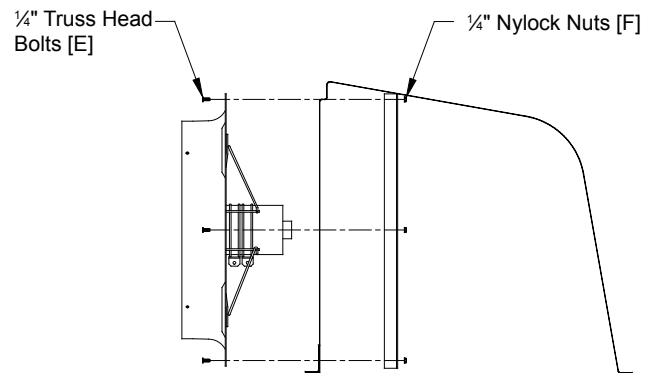

Figure 10
Slide fan up into FPTR and place fan against the 3" angles and push to top of FPTR. Using the pre-drilled holes in the fan's flange, drill thru the angle pieces and attach fan using (3) ¼" Truss Head Bolts [E] and (3) ¼" Nylock Nuts [F] (provided) in each side. **See Figure 10.**